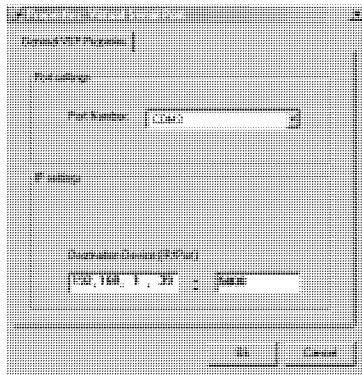

Figure 9: The Virtual Serial Port Properties Window
3. Press the **Add VSP** button to add a serial port and type the IP settings according to the IP address and local port of your **VS-81HDMI** (see Figure 9).